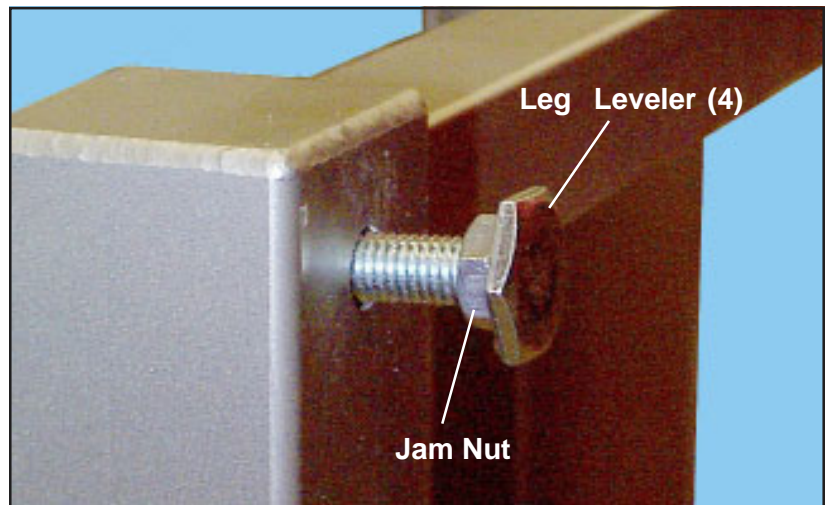

Figure 4. Leg Leveler with Jam Nut Mounted in Skid Bolt Hole
2. Screw the four leveler legs about halfway into the skid bolt holes (Figure 4).